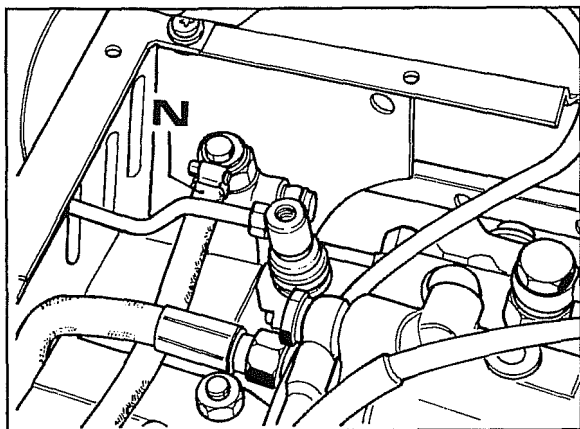
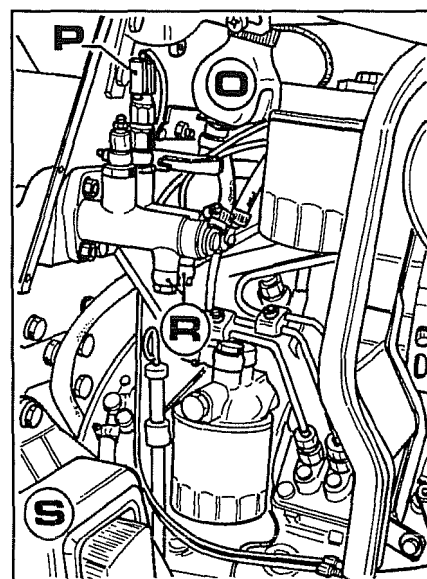

Fig. 11
Fig. 12
7. Empty the brake fluid reservoir **O** Fig. 12, and disconnect the delivery pipe **N** Fig. 11 for the differential lock pump.
8. Disconnect the electric wires at terminal block **P** Fig. 12 from the brake light assembly and then remove it through the rear section.
9. Disconnect the delivery tubes **R** Fig. 12 for the brake pumps but be careful to hold them when removing them from the tractor so that they are not damaged.
10. Remove the mudguards **S** and **T** in Fig. 12 and 15 with their wire harnesses.